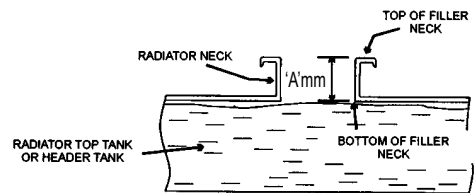
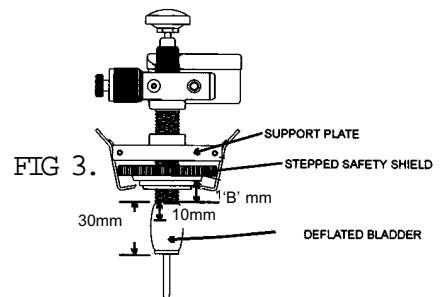

FIG 2.
FIG 3.
- a) Measure the depth 'A' from the top to the bottom of the filler neck (see FIG. 2).
- b) Deduct 10mm from this measurement, being 1/3 of the bladder height (see FIG. 3).
- c) Select suitable diameter step of safety shield for top of filler neck. Adjust support plate and safety shield so that the selected step is set at the measurement calculated in FIG. 2, above the top of the bladder (FIG. 3 'B').